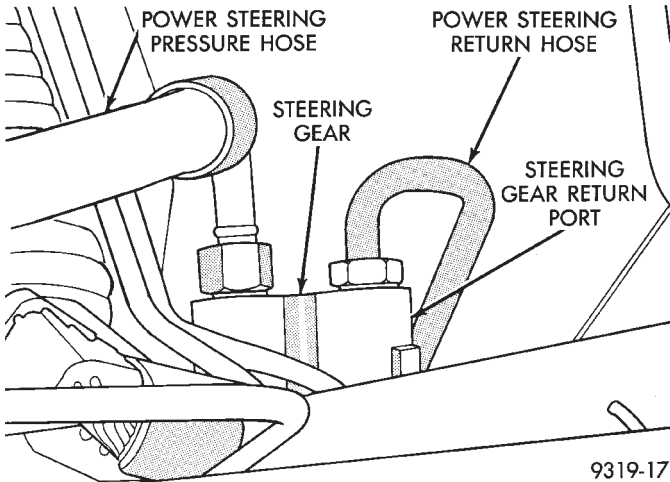

Fig. 12 Power Steering Return Hose At Steering Gear
(1) Remove the power steering return hose (Fig. 12) from the power steering gear. Let the power steering fluid drain from the power steering fluid reservoir and the return hose before removing the return hose from the power steering fluid reservoir.